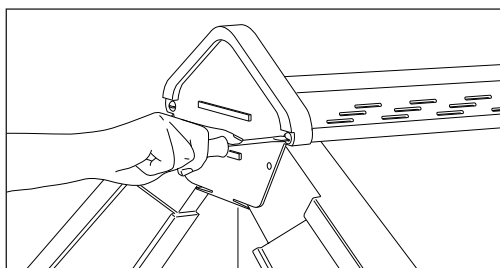

Fig 7 Screw fix ridge end cap
- 11 If required, trim flange of ridge and cap to fit between top course verge units. (Figs 9 and 10). Screw ridge end cap to end of dry ridge batten by locating 25mm x 8g stainless steel screws into end of circular beads on upper flange (Fig 7).